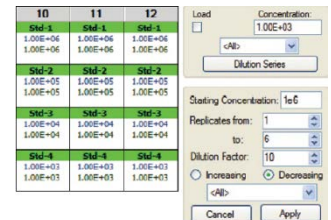

Figure 11. Standards figure from Bio-Rad Software Plate Quick Guide
4.19. Create a Standard Curve (Fig. 11)